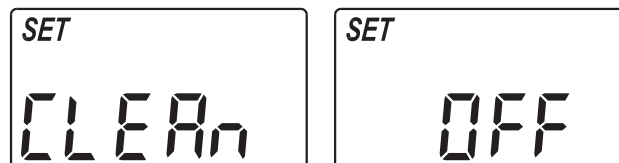

FIG. 25
2. Press the SELECT button once again, so that "SET CLEAN OFF" or "SET CLEAN ON" flashes in the display (See Figure 25).